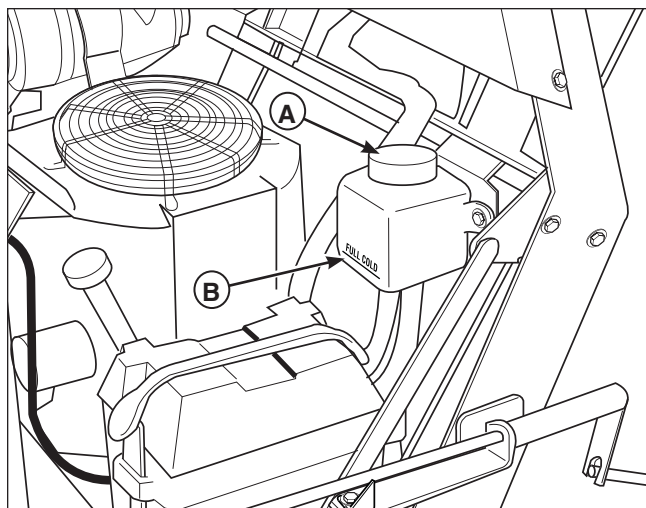

Figure 32. Oil Reservoirs
- Keep oil level in the reservoir (A, Figure 32) at the “FULL” line (B). Extra oil in the reservoir will not benefit the machine.
4. Run engine for 5 minutes. Watch the oil level in the reservoirs. Add oil to the “FULL” line (B, Figure 32) as necessary.